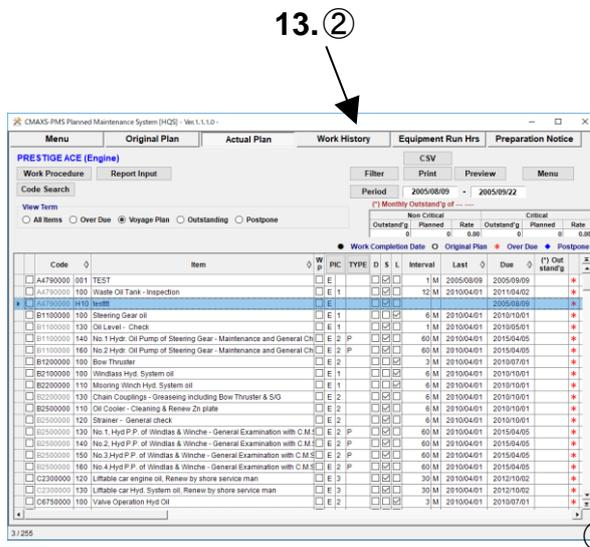

Fig. 7-1 Actual Plan screen
- (1) On the “Menu Screen”, select [Actual Plan] tab.
- (2) "Actual Plan"(Fig.7-1) is displayed.